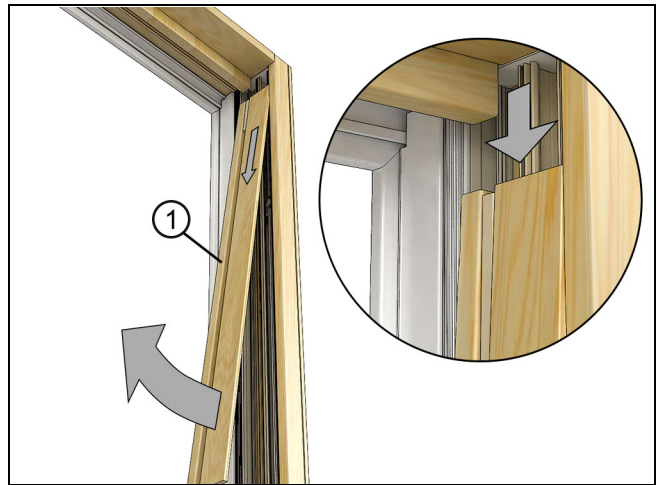

Figure 19
2. Once the cover is released, carefully pull down on it to remove it from the end of the head jamb parting stop. See Figure 19.